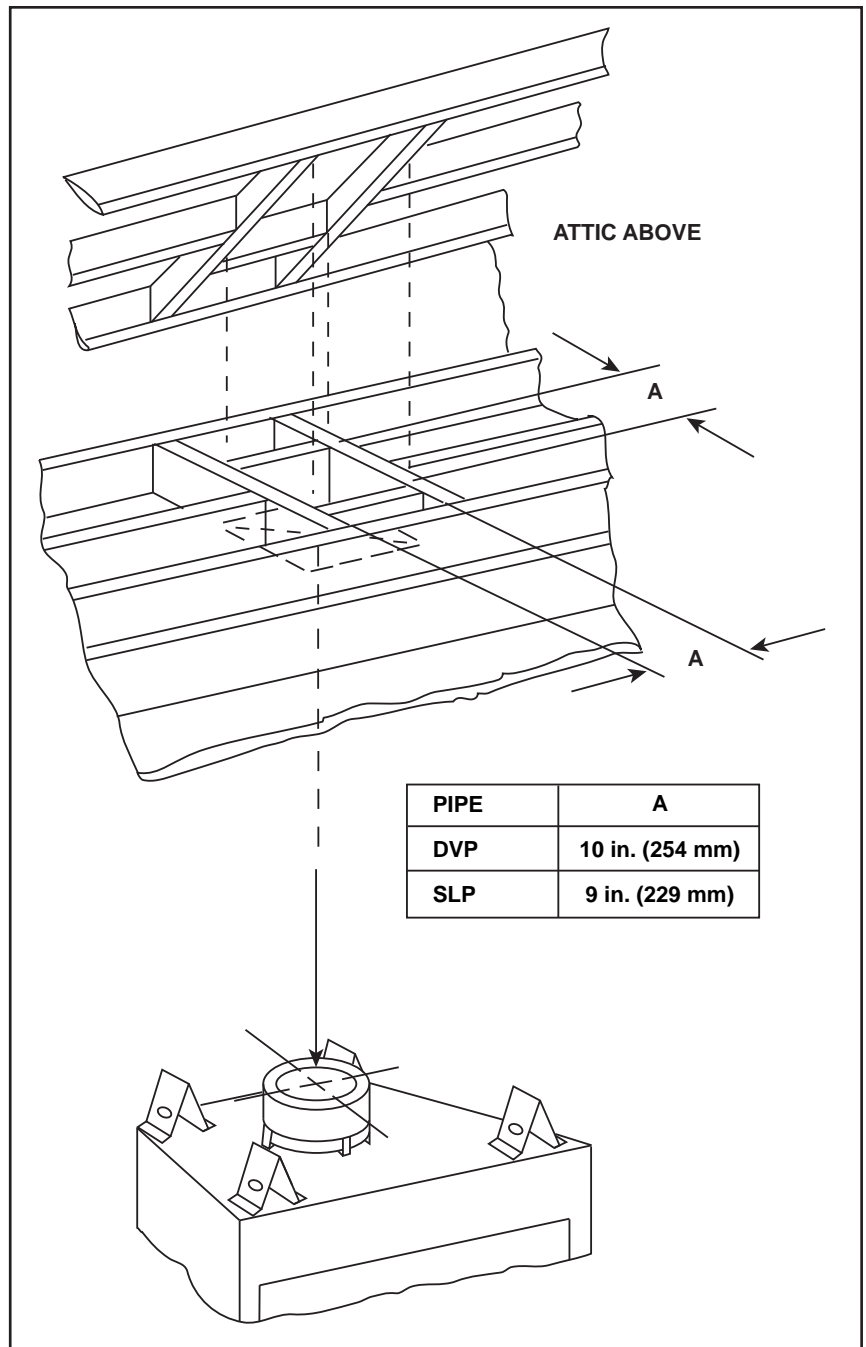

Figure 5.5 Installing Ceiling Firestop - Generic Appliance Shown
- **DVP pipe only** - Frame an opening 10 in. by 10 in. (254 mm by 254 mm) whenever the vent penetrates a ceiling/floor (see Figure 5.5).
- **SLP pipe only** - Frame opening 9 in. x 9 in. (229 mm x 229 mm) whenever the vent penetrates a ceiling/floor. See Figure 5.5.